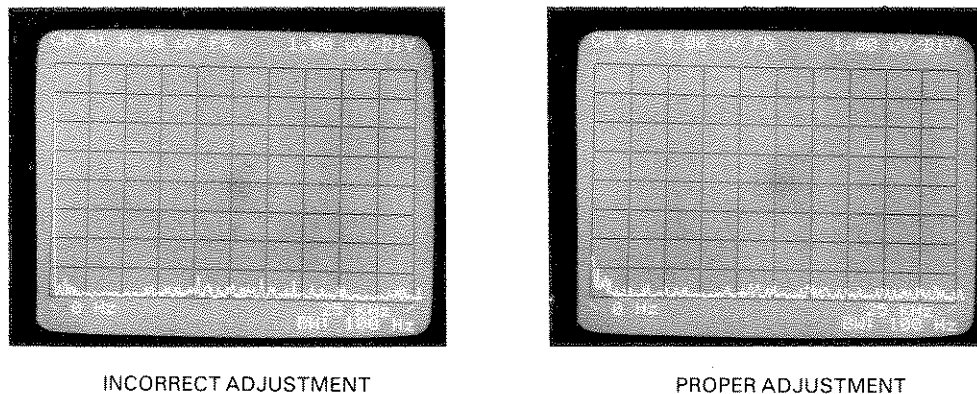

Figure 3-27. Adjusting the BAL Control.
- g. Adjust the BAL control for a minimum amplitude at the 0 Hz frequency point (see Figure 3-27).